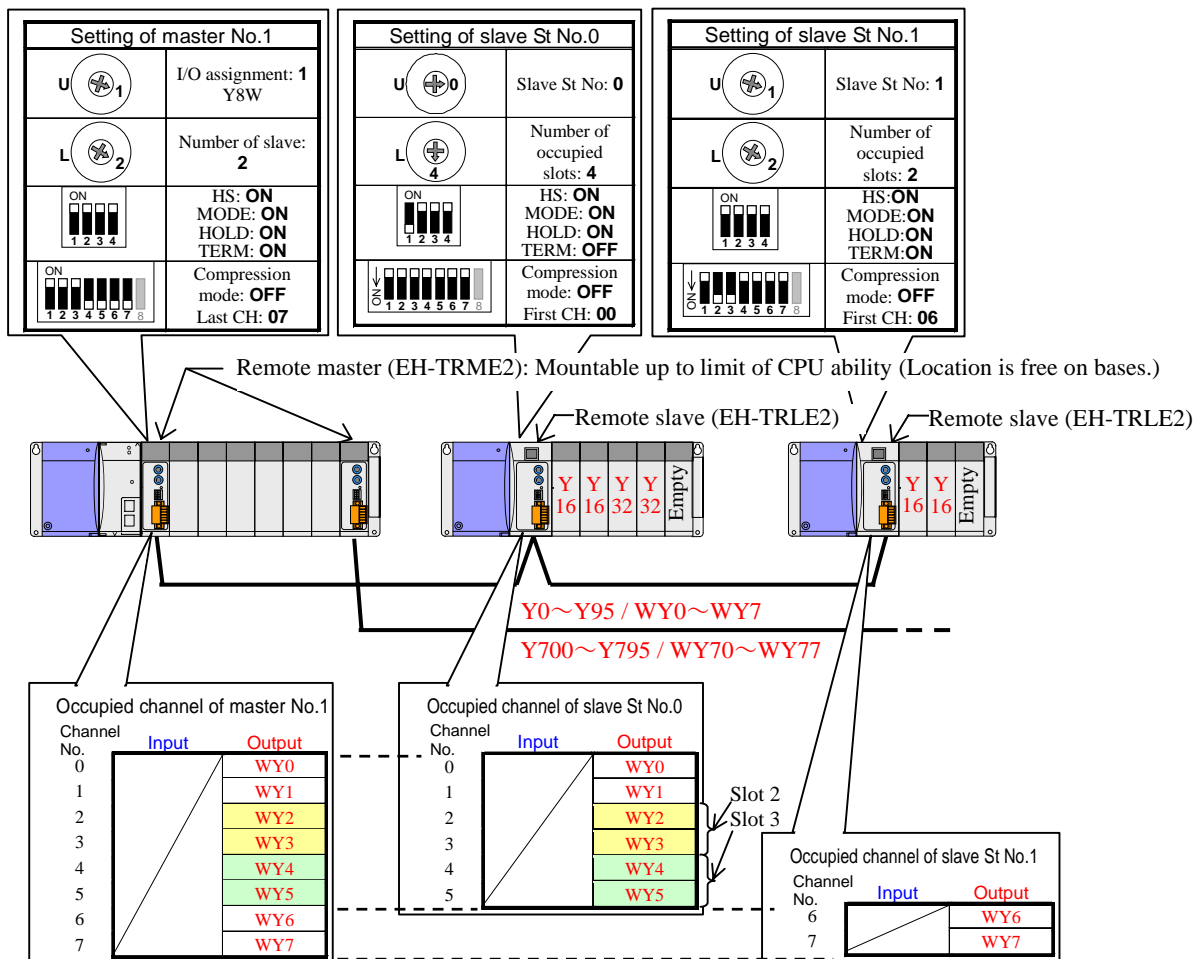
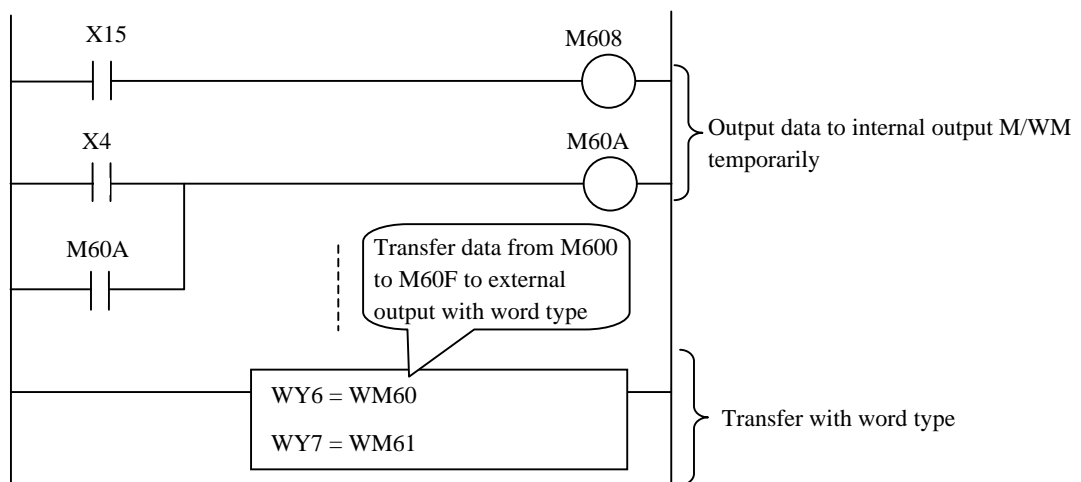
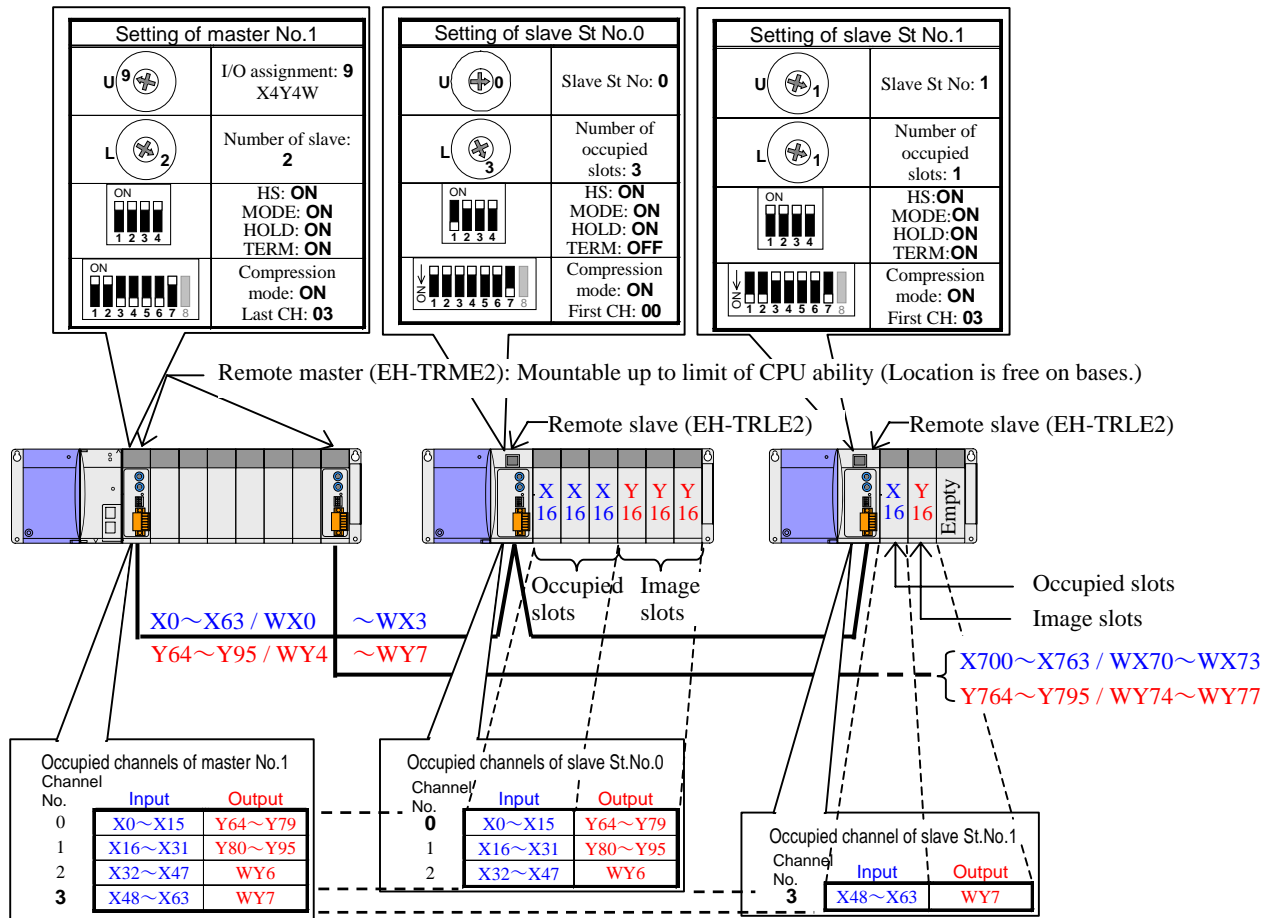

Figure 4.3.6 System configuration example (I/O assignment of master: “Y8W”)
Figure 4.3.8 Sample program with bit I/O numbers that exceed 95 (WY6, WY7)
Figure 4.3.9 System configuration example (I/O assignment of master: “X4Y4W”)
Basic system configuration example that I/O assignment of master module (EH-TRME2) is “Y8W” is shown in Figure 4.3.6.
- 2) One channel consists from 16 bits (1 word) output area. In the case of I/O assignment for master module is “Y8W”, I/O number of slot that master module mounted is assigned to each channel as shown in Figure 4.3.6.
- 5) Maximum 8 slave modules can be connected to one master module. (Example of Figure 4.3.6 is 2 slaves.)
- 10) Bit number in module is from 0 to 95. Therefore, please use the word number such as WY6 and WY7 in Figure 4.3.6 for the number that exceeds 95. In the case of using these No. as coil or contact in ladder program, please use internal output like as M/WM temporarily and transfer these data to external output as shown in Figure 4.3.8.
Basic system configuration example that I/O assignment of master module (EH-TRME2) is “X4Y4W” is shown in Figure 4.3.9.
- 2) One channel consists from 16bits (1 word) input area and 16bits (1 word) output area. In the case of I/O assignment for master module is “X4Y4W”, I/O number of slot that master module mounted is assigned to each channel as shown in Figure 4.3.9.
- 5) Maximum 4 slave modules can be connected to one master module. (Example of Figure 4.3.9 is 2 slaves.)
- 10) Bit number in module is from 0 to 95. Therefore, please use the word number such as WY6 and WY7 in Figure 4.3.9 for the number that exceeds 95. In the case of using these No. as coil or contact in ladder program, please use internal output like as M/WM temporarily and transfer these data to external output as shown in Figure 4.3.8.